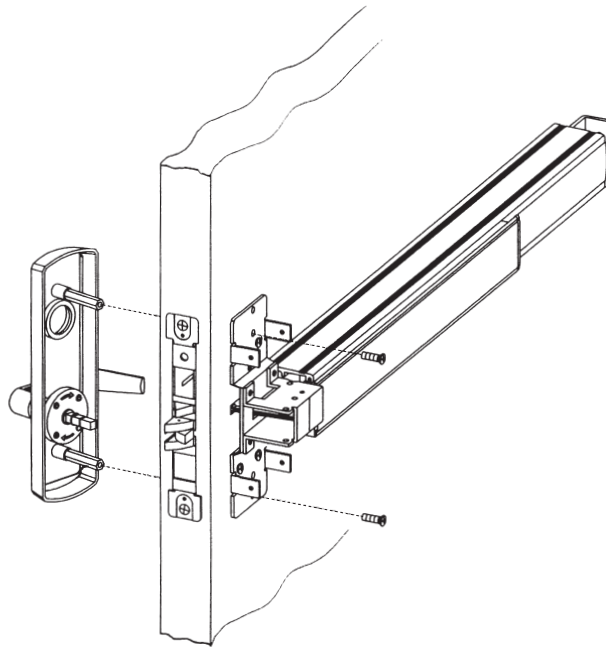

Figure 6-4
4. Mount two long screws through device chassis into the two mounting posts of the outside trim (see Figure 6-4).